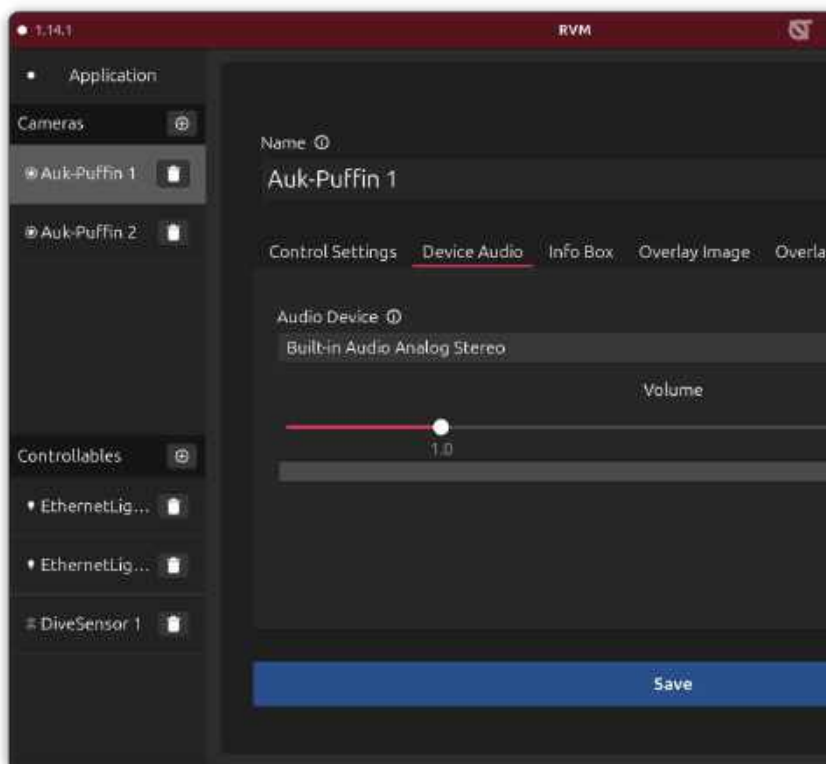

Fig 11
15. On the **Camera Settings** tab, select **Device Audio** and Select “**Built-in Audio Analog Stereo**” to add sound to the video feed. (Fig 11)